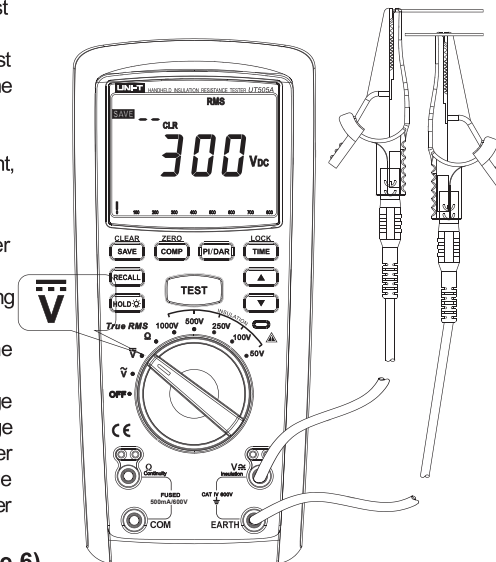

Figure 5
2. DC voltage measurement (See Figure 5)
- ① Insert red test pen in “ $\sim V$ ” jack (red hole) and black test pen in “EARTH” jack (black hole).
- ② Push the rotating switch to the gear “ \bar{V} ” and connect test pen in parallel with the power source or to both ends of the load to be measured.
- ③ Directly read the measured voltage value from display.
- ④ To save the measured voltage value during measurement, just push the button “SAVE”.